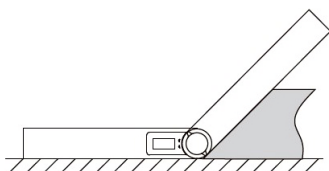
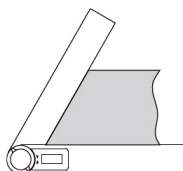
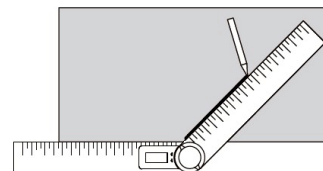

Fig. 5
Fig. 6
Fig. 7
- » Fig. 5, Fig. 6, auxiliary line drawing (Fig. 7).